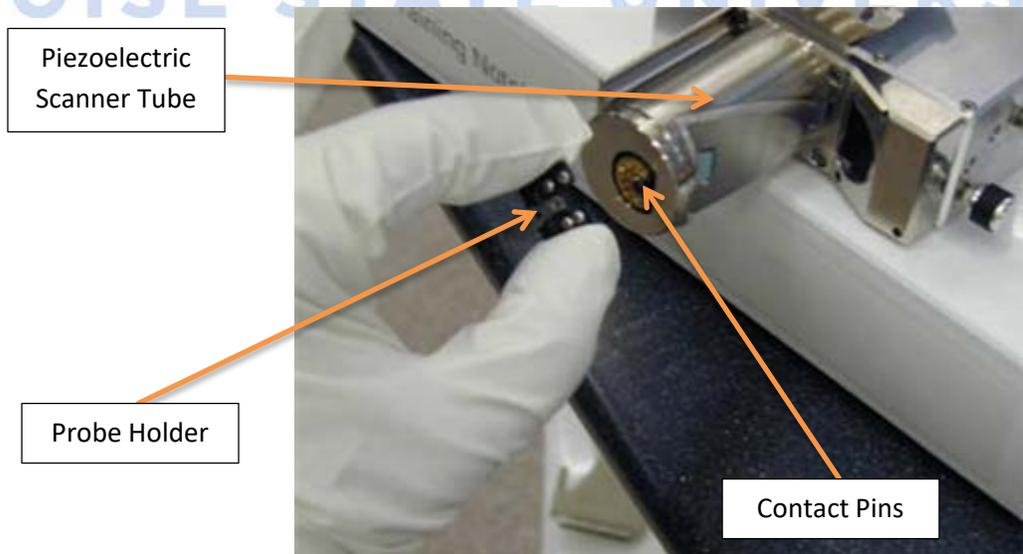

Figure 5. Installation of a probe holder onto the Dimension Icon AFM head.
- d) Carefully remove the Icon head by sliding it up the dovetail rail. Install the probe and probe holder by aligning the holes on the probe holder with the contact pins on the head (Figure 5).